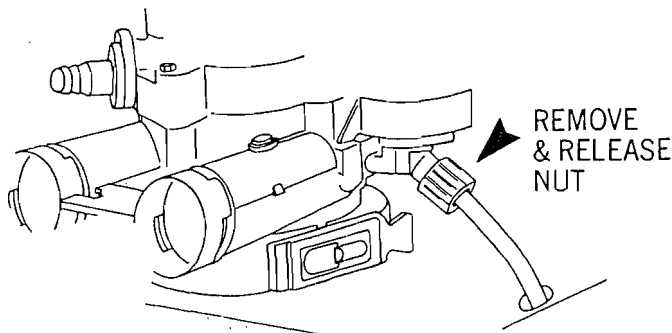

FIG. 1.
2. Undo the brine nut and release brine line (Fig. 1).